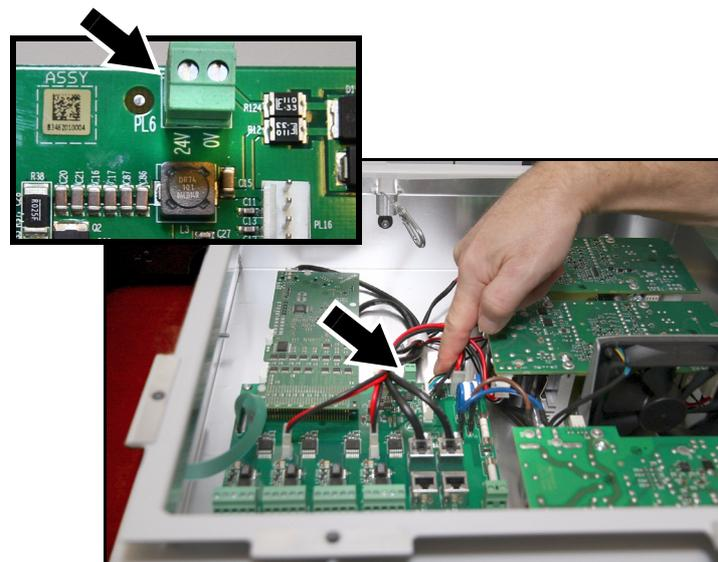

Figure 9: 24 VDC source at PL6
11. See Figure 9. Socket PL6 (arrowed) is available for use as a 24 VDC power source on the connections PCB inside the PowerPort. A connector with screw terminals is supplied installed in the socket. If the converter's DC power leads already have a suitable connector installed, plug the connector into socket PL6 in place of the connector that is supplied. Otherwise, fasten the converter's DC power leads into the screw terminals of the connector that is supplied. Connect the **+ve** lead to the terminal marked **24V** and the **-ve** lead to the terminal marked **0V**.